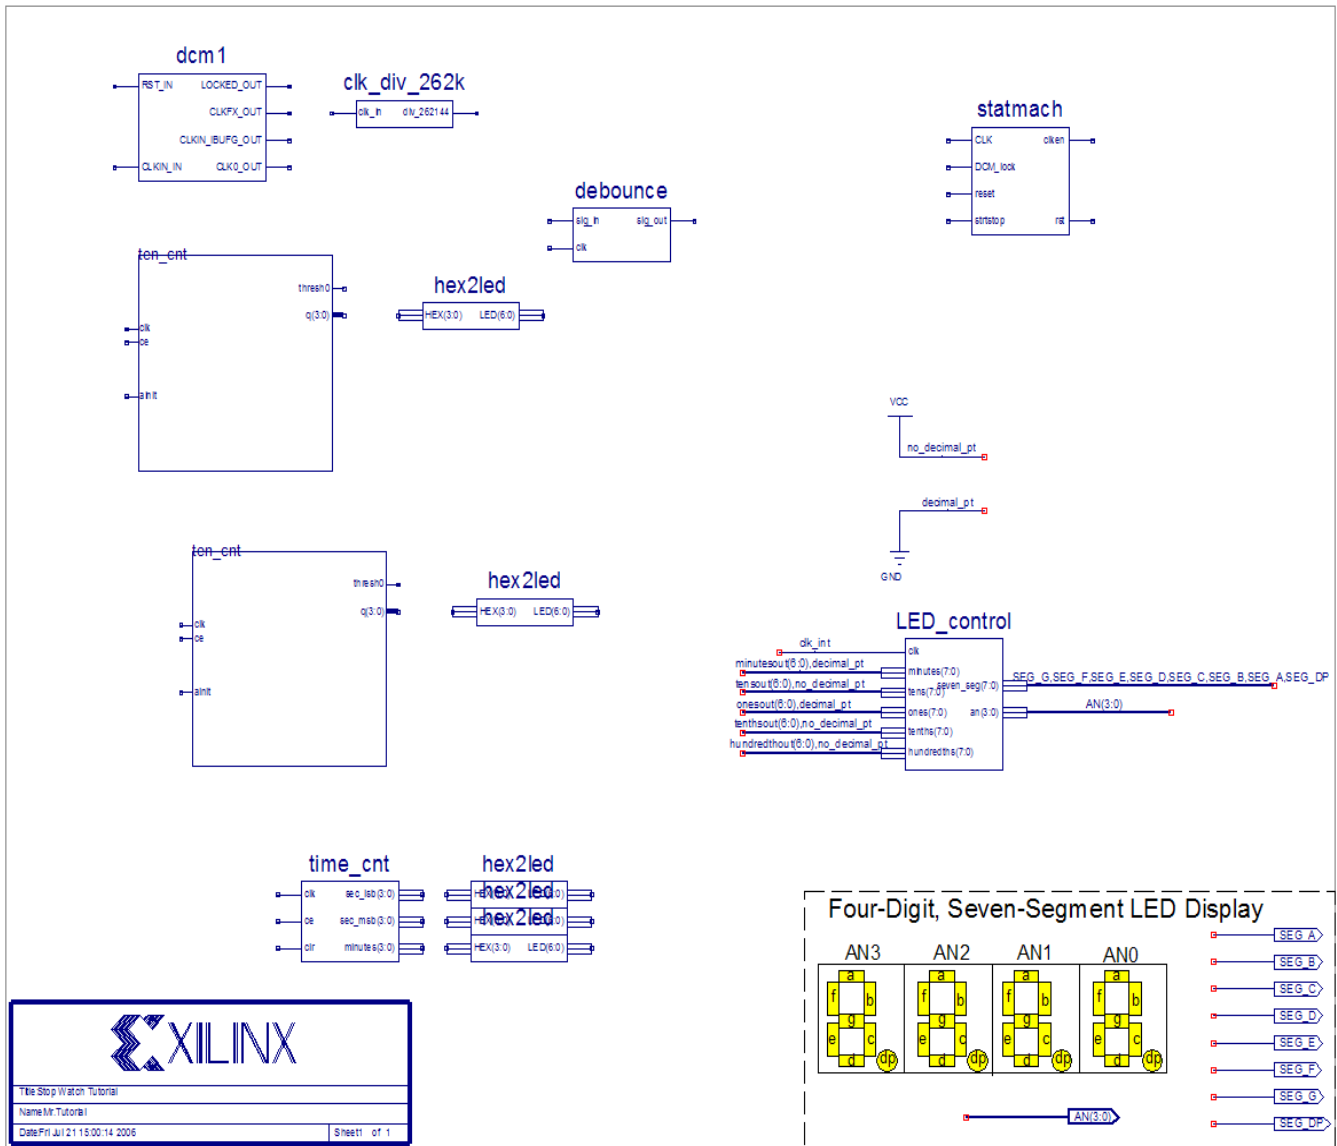

Figure 3-37: Placing Design Macros
4. Select the appropriate symbol, and add it to the stopwatch schematic in the approximate location, as shown in Figure 3-37.